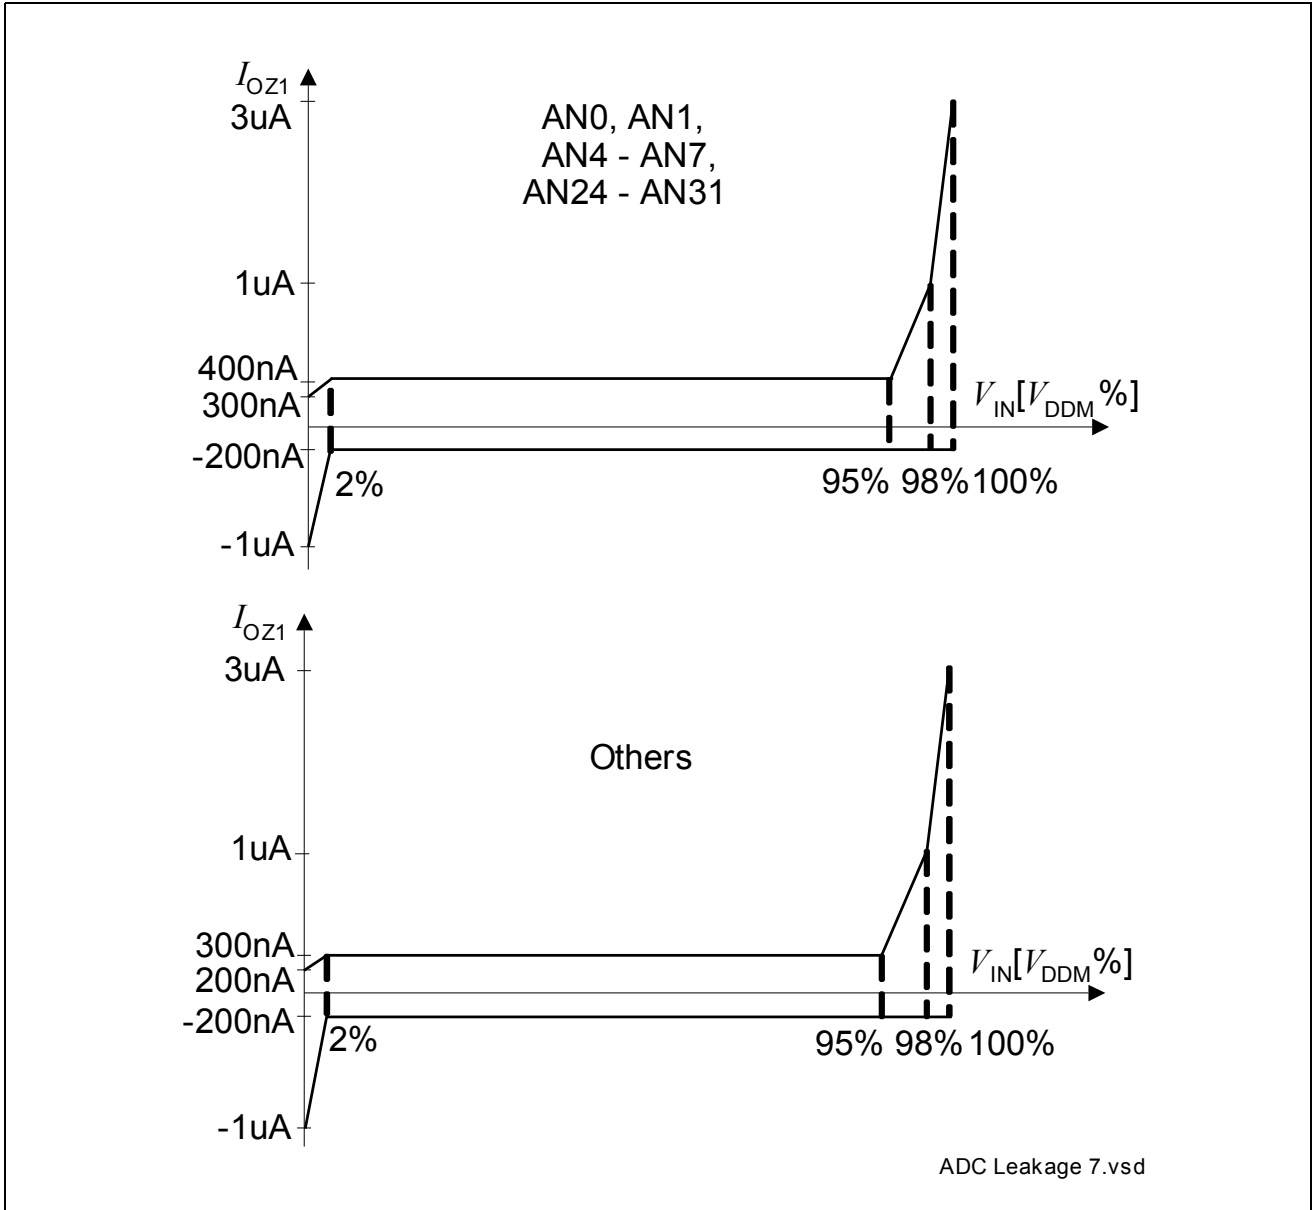

Figure 24 ADC0/ADC1 Analog Inputs Leakage
- 13) The leakage current definition is a continuous function, as shown in **Figure 24**. The numerical values defined determine the characteristic points of the given continuous linear approximation - they do not define step function.